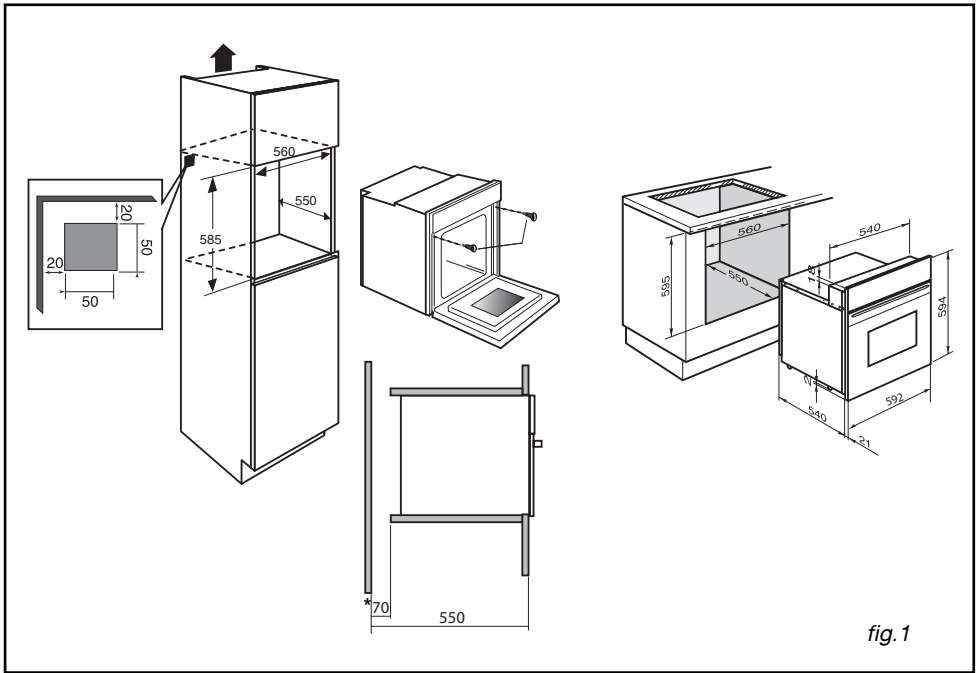

fig. 1
- For greater stability, attach the oven in the cabinet with two screws through the holes provided for this purpose on either side of the front inner panel (fig.1).
- **Anti-rocking safety grid (fig.1)**
- slide one of the forks onto the spit; skewer the piece of meat to be roasted; slide on the second fork; centre and tighten by screwing on the two forks using the handle (fig.1).
- Open the door completely and block it open using the two red stops (fig.1).